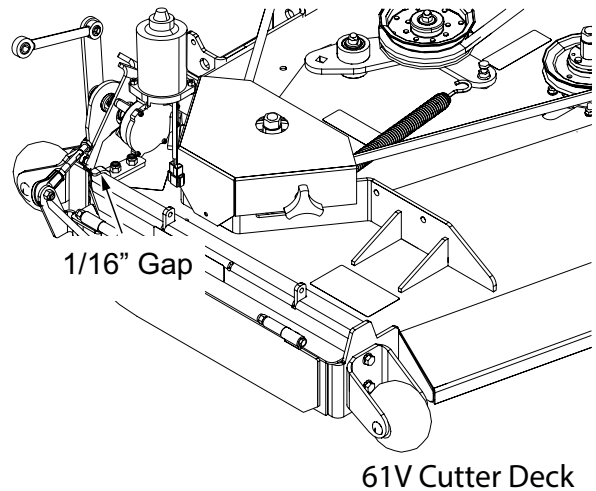

Figure 3-15. Gap Requirement
3. Remove the turbo baffle from the cutter deck. See Figure 3-15.